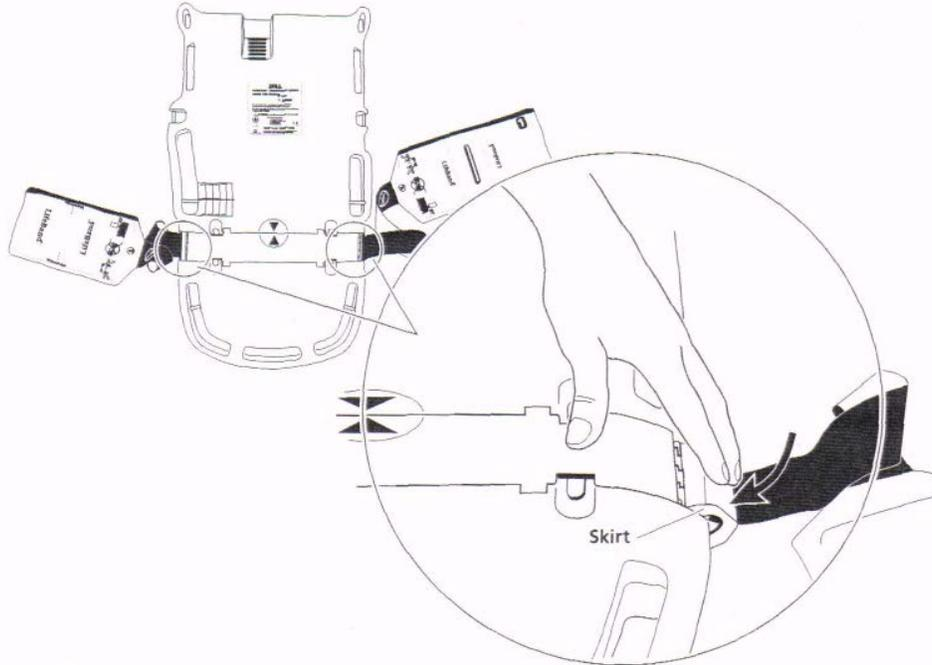

Figure 2-4 Flip Down the Hinged Skirts of the LifeBand® CCA
8. Flip down and snap into place the hinged skirts of the LifeBand® cover plate to engage the LifeBand chest bands to the rollers (see Figure 2-4).